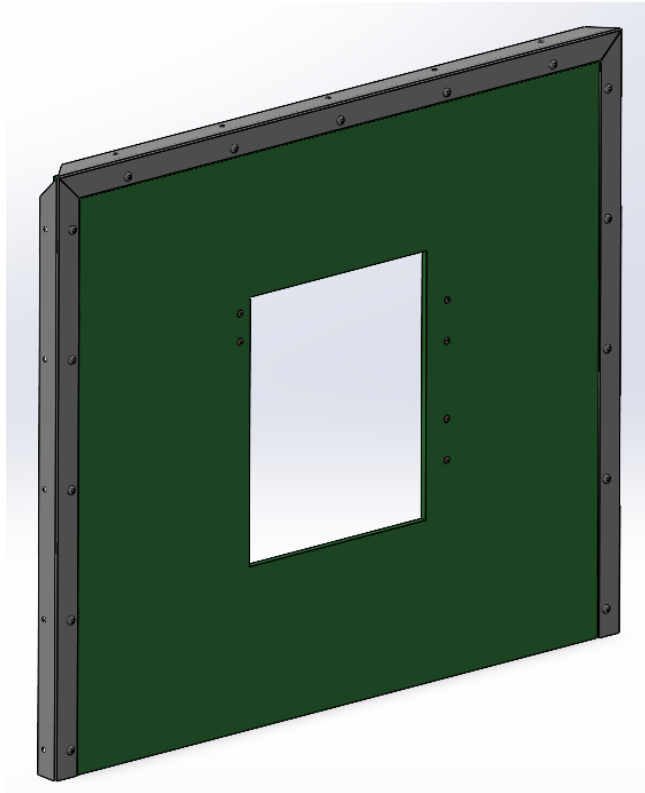

Fig. 7. Aluminum side trim and top wide trim installed on the front acrylic.
1. Screw two side aluminum trims and one top wide aluminum trim onto the front acrylic, see Fig. 7.